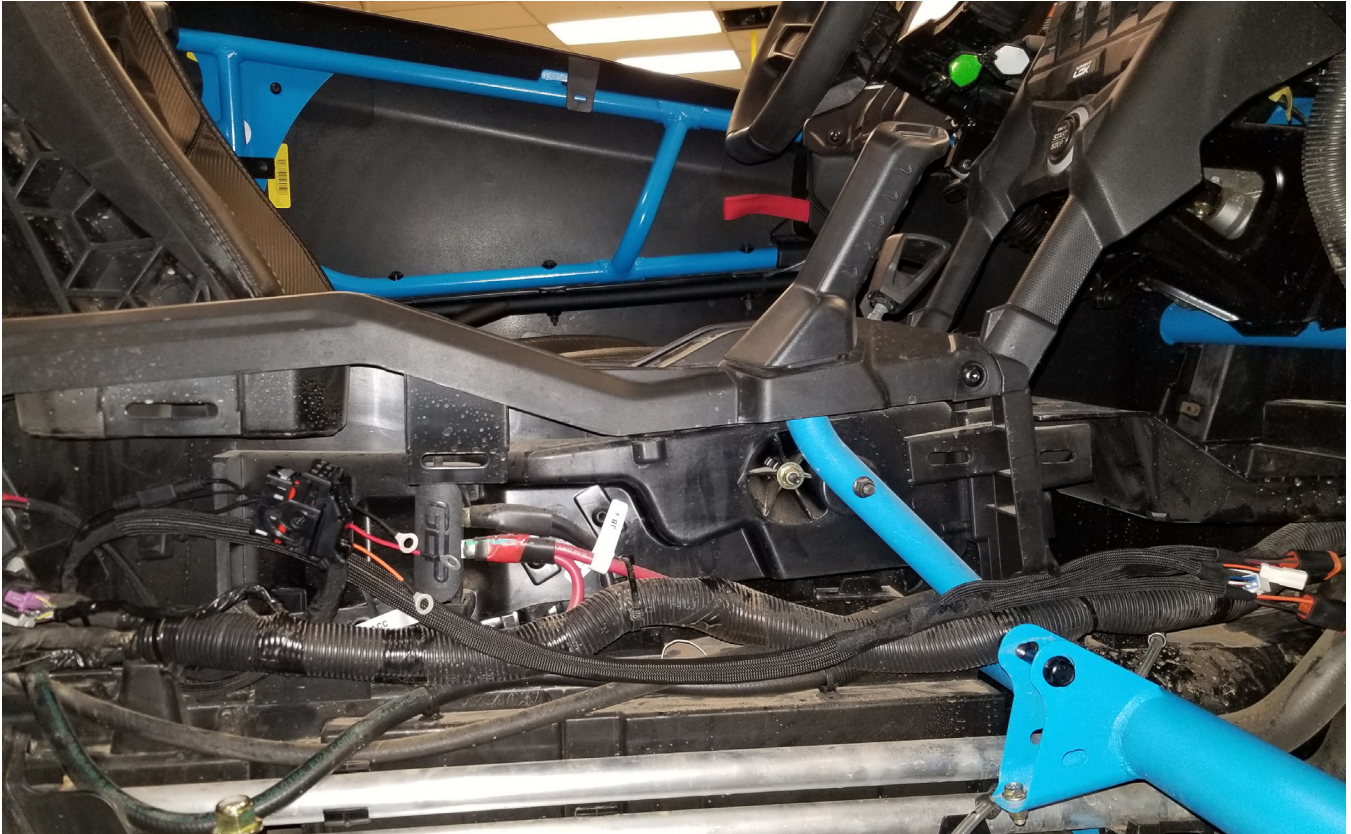

Figure 3
1. Place the main iQS wire harness into the center console cavity as shown in Figure 3.
2. Orient so the RR/RL leads point toward the rear of the vehicle and make a loop out of the first 16 inches of harness so the FR/FL, switch, and PWR/IGN/GND lines point toward the front of the vehicle as shown in Figure 3. Do not secure the harness to anything at this stage.